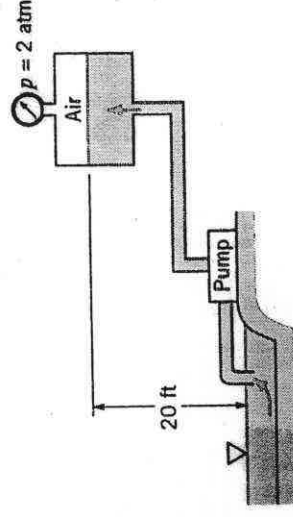

FIGURE P5.81
5.81 A pump is to move water from a lake into a large, pressurized tank as shown in Fig. P5.81 at a rate of 1000 gal in 10 min or less. Will a pump that adds 3 hp to the water work for this purpose? Support your answer with appropriate calculations. Repeat the problem if the tank were pressurized to 3, rather than 2, atmospheres.